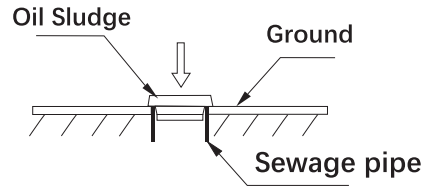

Figure 1
1. Install gasket on floor drain and seal well. (see figure 1)